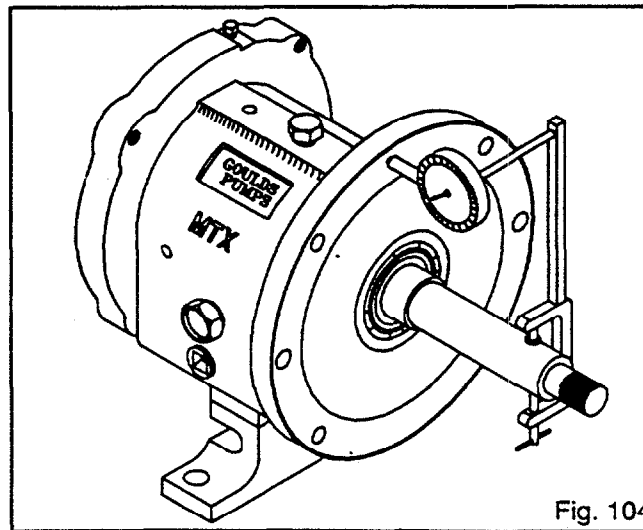

Fig. 104
4. Check frame face run out. Rotate shaft so indicator rides along the fit for 360 degrees. If total indicator reading is greater than 0.001 in. (.025 mm) disassemble and determine cause (Fig. 104).